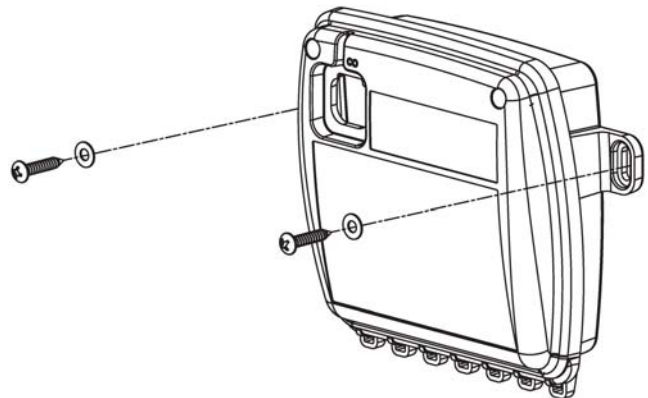

Figure 4
Using screws and washers, affix the control box to a stable vertical surface (e.g., stud) using the mounting holes on either side of the control box (**Figure 4**).
- The control box must be mounted in a vertical position as shown in **Figure 4** to allow proper heat dissipation. Failure to mount as shown may cause thermal protection shut off.